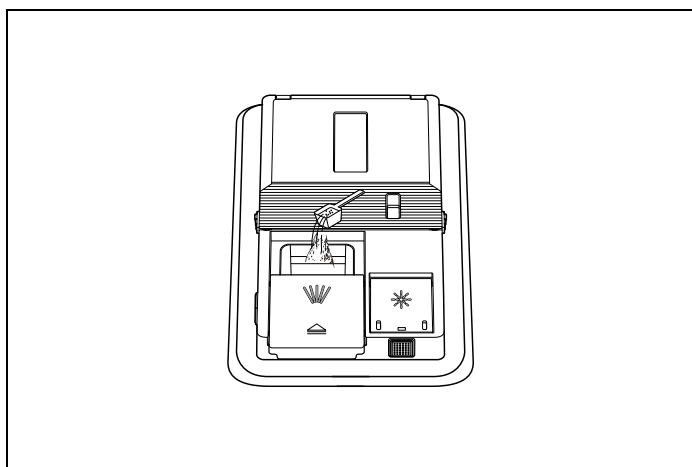

Fig. 62
- 2) Pour/put the detergent into the dispenser (Fig. 62).